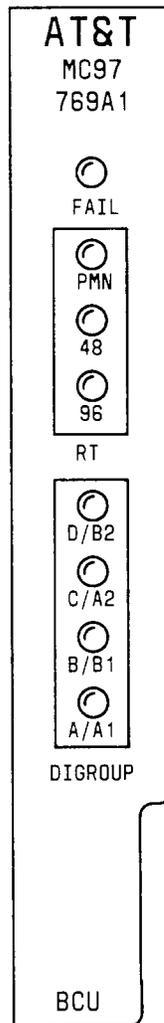

Figure 2 - MC97769A1 BCU (bank control unit)
2.08 The MC97769A1 BCU (Figure 2) has two new LEDs labeled 48 and 96.